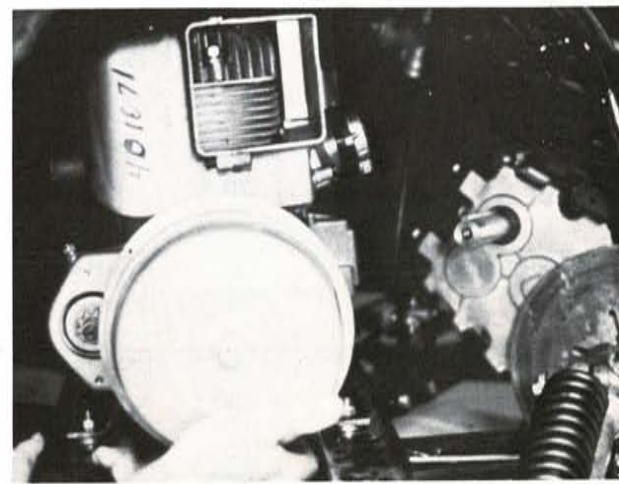

FIG. 6
9. Remove spark plugs and slide engine out left side (Fig. 6)